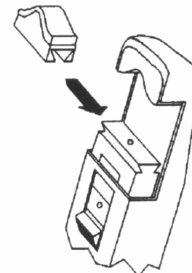

Figure 3
2. Select the appropriate adapter and slide it into the matting slotted channel of the FL-OFI-X with slight downward pressure, as shown in Figure 3.